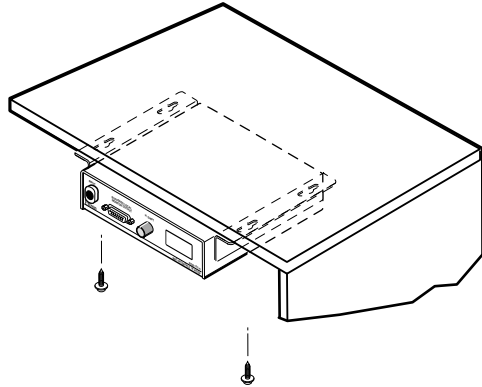

Figure 10 — Under desk mounting
- Using the four wood screws provided, attach the brackets under the mounting surface (see figure 10).